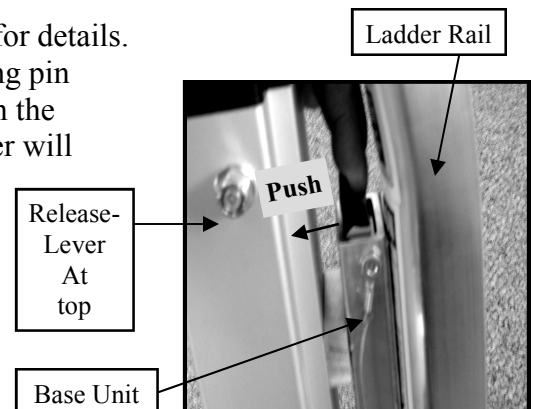

Figure 13
6. **To Remove Leveler (Figure 13 at right)** from base unit, pull ring pin out of hole. Using index finger of one hand and holding leveler with the other hand, push on release lever, located at top of base unit. Leveler will drop down and can be pulled away from the base unit.